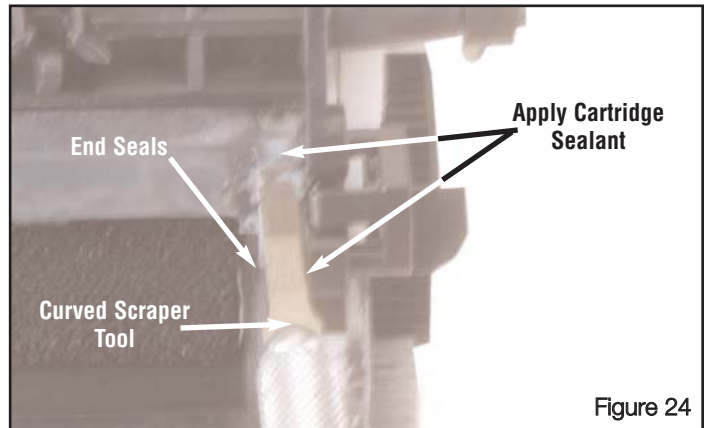

Figure 24
1. Using the back of a Curved Scraper Tool (CSBT00L) apply Cartridge Sealant (CSEALANT) to the ends of the Doctor Bar Sealing Blade and along the Developer Roller End Seals. See Figure 24.